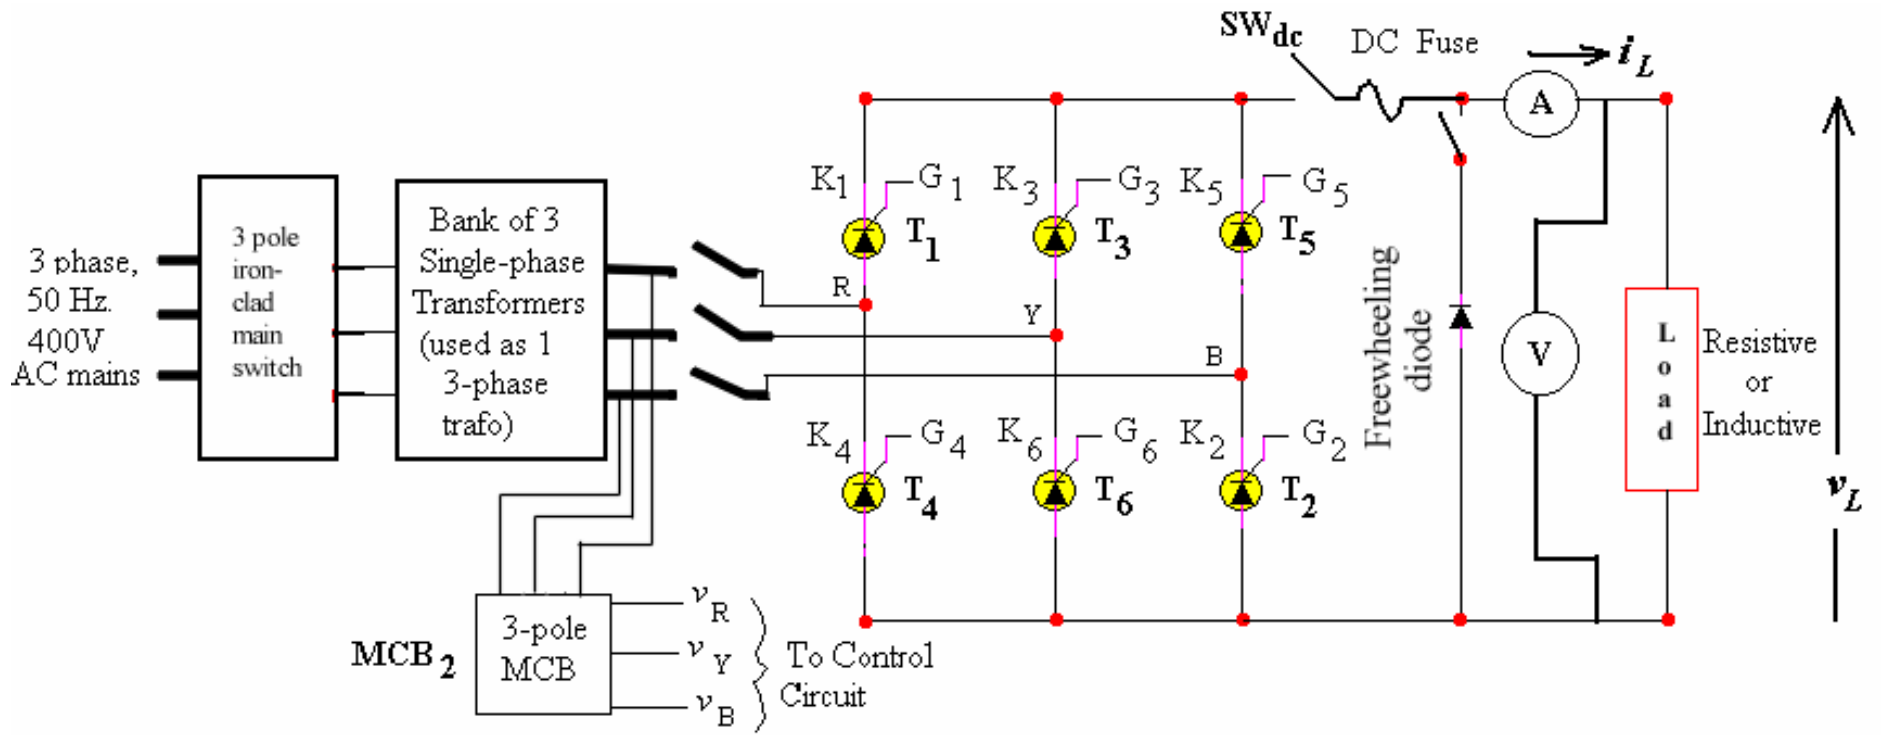

Fig. 2.1. Power Circuit Diagram of the thyristorized three phase full-controlled rectifier, with different types of loads.
Refer to Figs. 2.1 for understanding the power circuit of the converter.
- a) Try to relate the power circuit, as drawn on the front panel of the converter, with the power circuit diagram of Fig. 2.1 given in this instruction sheet. Identify the 3 numbers of two-way switches for powering up the power circuit, on the front panel. Identify the switch SW_{dc} and the DC fuse on the front panel. Identify the freewheeling diode terminals.